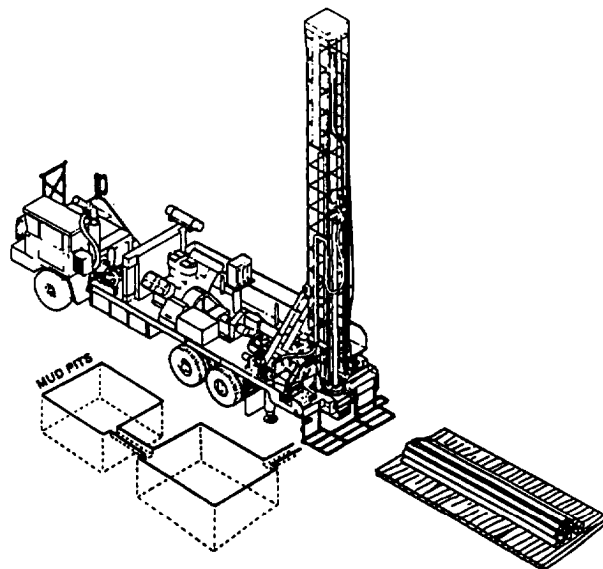

Figure 9-10.-Mud pits.
While the rig is being leveled, part of the crew can excavate the mud pits (fig. 9-10). The size of the pit depends on the water supply, depth of drilling, and the type of material drilled. A fluid return ditch should be dug from the drilled hole to the settling pit and from the settling pit to the main pit. The ditches enter and leave the settling pit in such a reamer that the flow of fluid is reversed and causes the cuttings to settle, thus keeping them from flowing into the main pit. The pits are lined and sealed with drilling mud and then water is added. Once the mud pits are full of water, the drilling mud can be added and mixed to the right viscosity with the mixing hose. The suction-hose screen is then placed in the main pit at the opposite end of the return ditch. The suction hose is submerged at all times but does not lie on the bottom.
1. The mud pits for top-head drilling are dug and designed, as shown in figure 9-10.